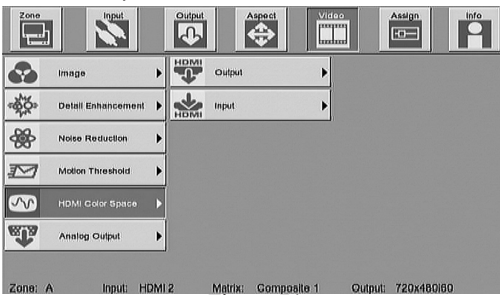

Figure 74
2. Select the VIDEO Icon, then select the HDMI Color Space Icon. Refer to figure 74.